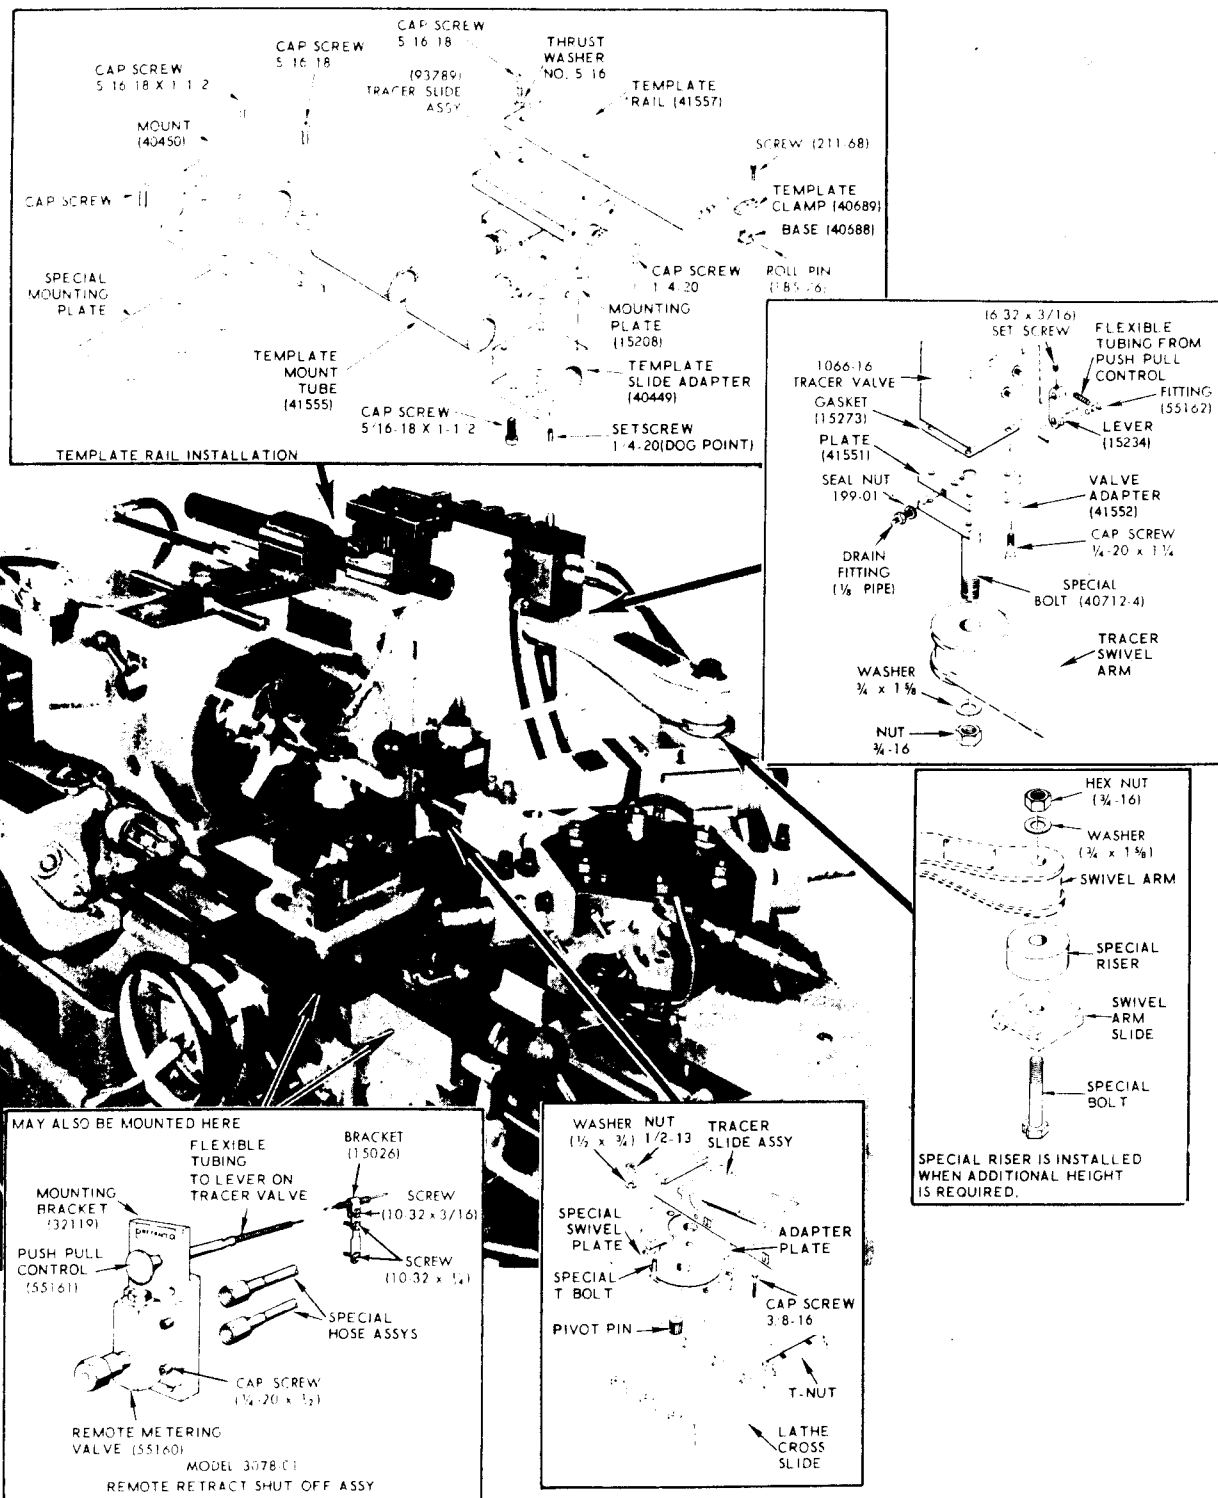

Figure 6-2. Typical Installation of a Mark Series Lathe Tracer Attachment on a Turret Lathe
b. Figure 6-2 shows a typical installation of a Mark Series Lathe Tracer Attachment on a turret